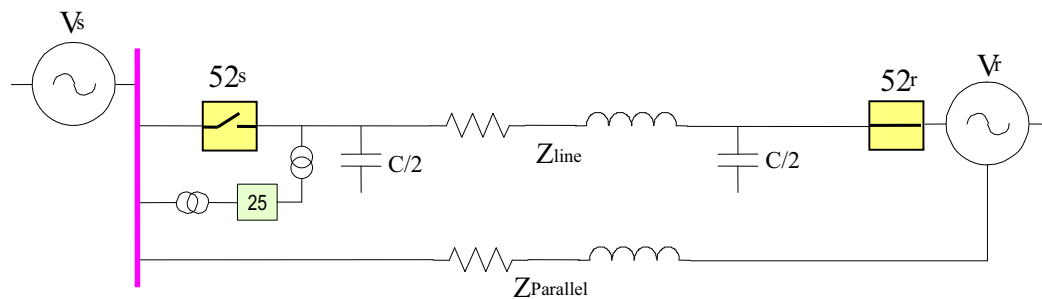

Figure 5–22: SYNCHRONISM CHECK ELEMENT
Synchronism check (25) is defined as the comparison of the voltage difference of two circuits with different sources to be either linked through an impedance element (transmission line, feeder, etc.), or connected through parallel circuits of defined impedance (Figure 5–22:) The voltage comparison between both sides of a breaker is performed before closing the breaker, in order to minimize internal damage that could occur due to the voltage difference, both in magnitude and angle. This is extremely important in steam generating plants, where reclosing output lines with angle differences could lead to severe damage to the turbine axis.